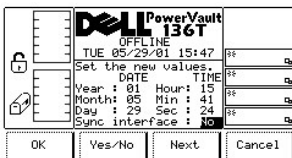

Figure 74. Setup > Utils > Date/Time > Sync Dialog
- 1 If the button beneath the **Next** softkey is pressed, the next field in the list is made the active field. If the next field is the last field, see Figure 74.